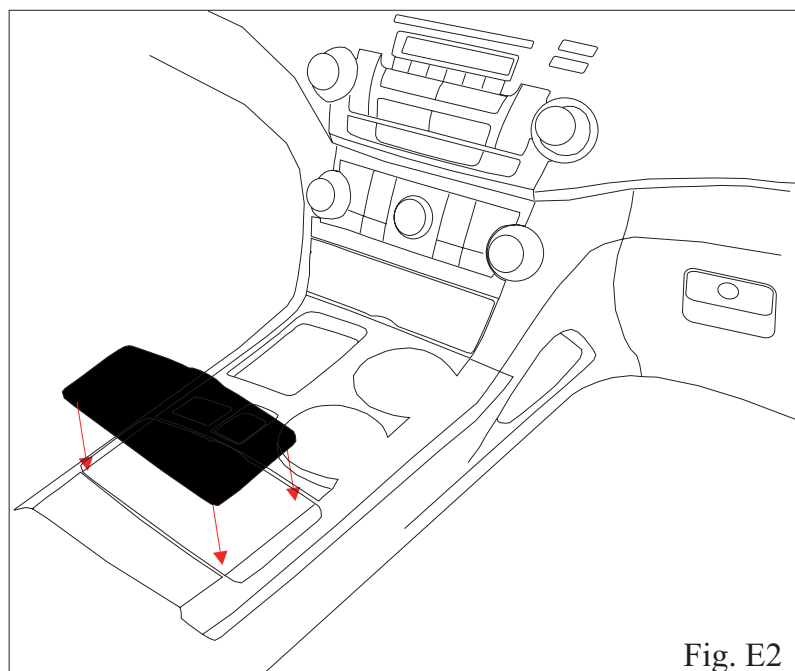

Fig. E2
- ⚠ A. Align part uniformly to edge of factory components. Edge of appliqué should be flush to edge of factory component,  $\pm 1.0\text{mm}$ . (Fig. E2).